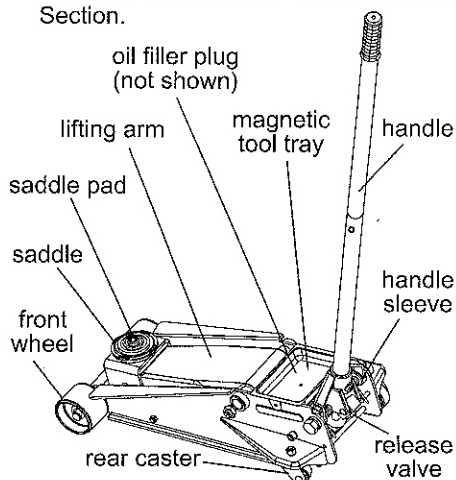

Figure 1 - Typical SpeedyLift hydraulic jack
**Lifting** (refer to Fig 1, Page 2)